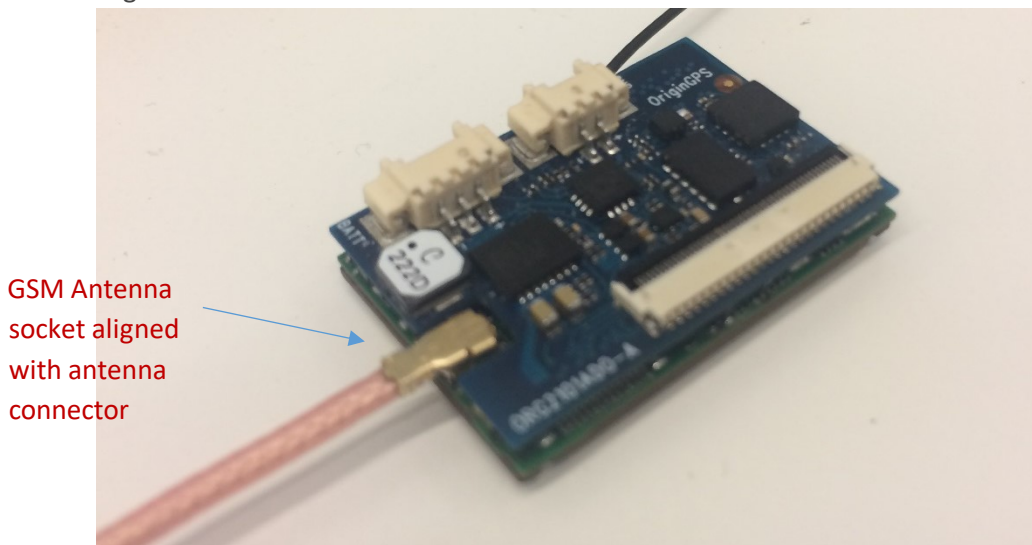

Figure 42 – mating Add-on to ORG2101 correctly
2. Mate ORG2101 with Add-on – connect add-on connectors J1 and J2 to ORG2101 connectors J1 and J2 as shown in figure 42.